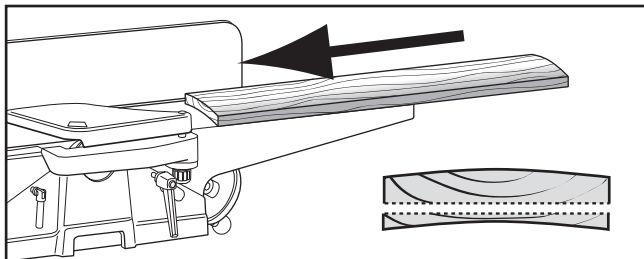

Figure 21. Surface planing on the jointer.
1. **Surface Plane on the Jointer:** The concave face of the workpiece is surface planed flat with the jointer (see **Figure 21**).